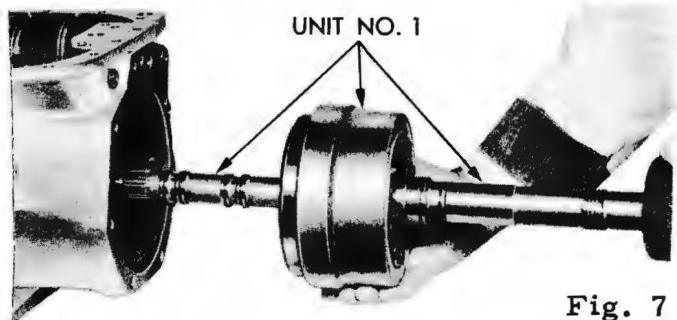

Fig. 7
- ☒ Remove the assembly by sliding out the rear of the transmission case (Fig. 7).